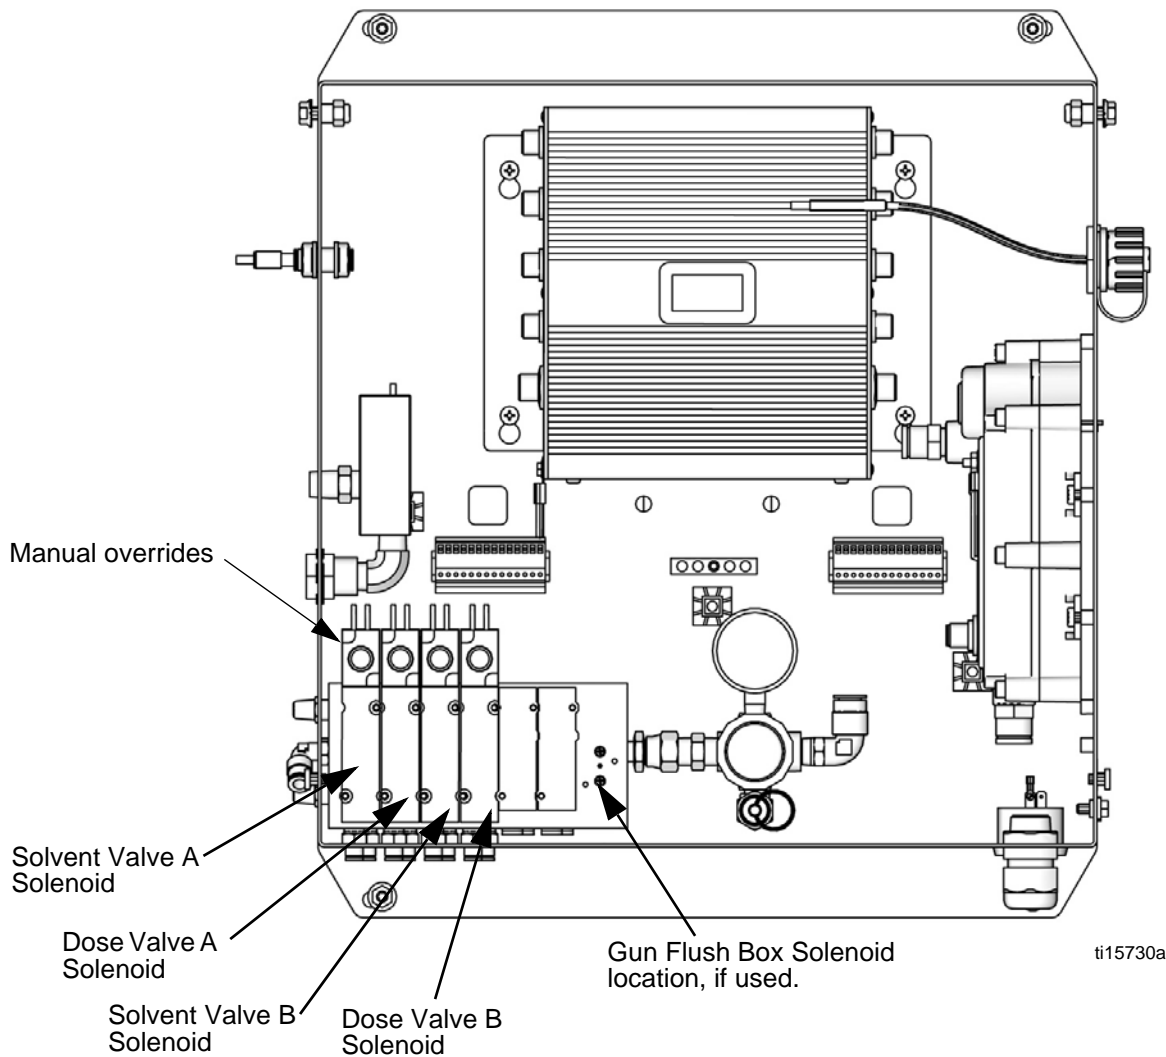

FIG. 19. Solenoid Valves in Control Box
7. Remove the Control Box cover to access the solenoid valves. See FIG. 19.
4. With the gun triggered, push the manual override on the A and B dose and solvent valve solenoids to relieve pressure. See FIG. 19. Verify that fluid pressure is reduced to 0.